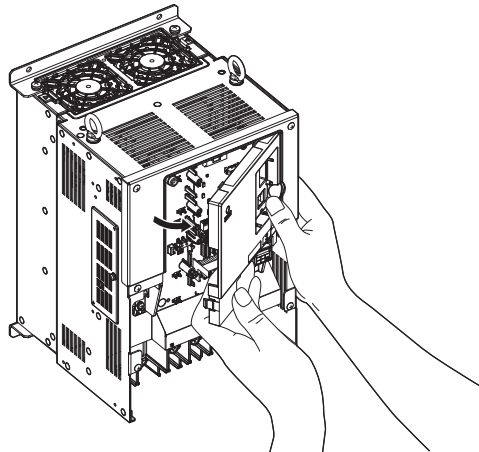

Figure 3.13 Remove the Front Cover (Models CIMR-L□2A0085 to 2A0415 and 4A0045 to 4A0260)
4. Unhook the left side of the front cover then swing the left side towards you as shown in Figure 3.13 until the cover comes off.